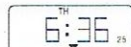

Figure 6
6.1 Pressing the "RESET / RECALL" key four times can unlock the keyboard lock, and the " " disappear, it is shown as Figure 6.